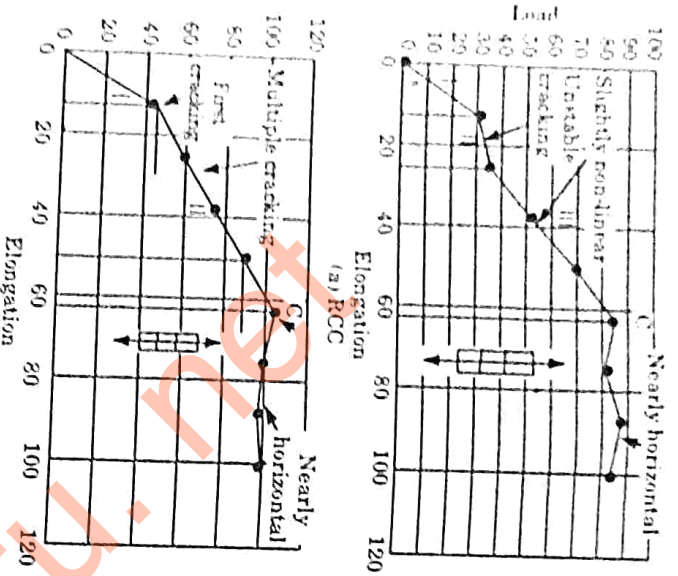

Fig. 5.16.1. Behaviour of (a) RCC compared with that of (b) ferro cement.
- 1. The typical load elongation curve for reinforced concrete prism and ferro cement prism is shown in Fig. 5.16.1(a) and (b), respectively.
- i Stage I: Corresponds to the ascending linear elastic portion of the curve (OA).
- ii Stage II: Corresponds to the unstable portion (AB) where cracking starts and stabilizes.
- 3. From Fig. 5.16.1, the main difference lies in unstable stage II (AB).